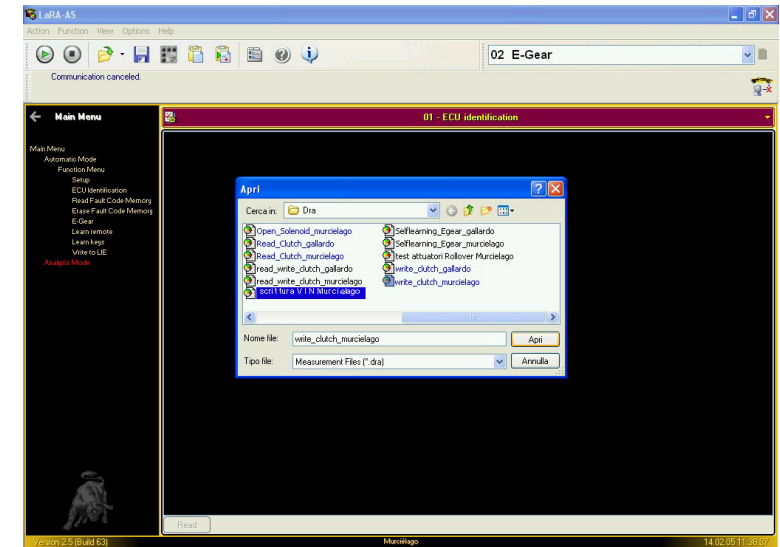

Fig.17
- Select the **measurement file “writing VIN murcielago” (Fig.17)**